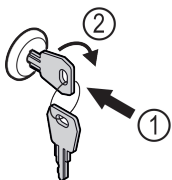

Fig. 187 Example illustration
- Insert key Fig. 187 (1).
- Turn key clockwise by 90° Fig. 187 (2).